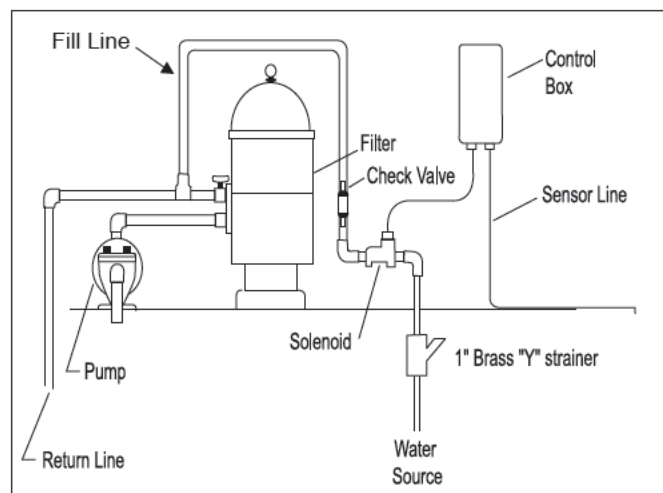
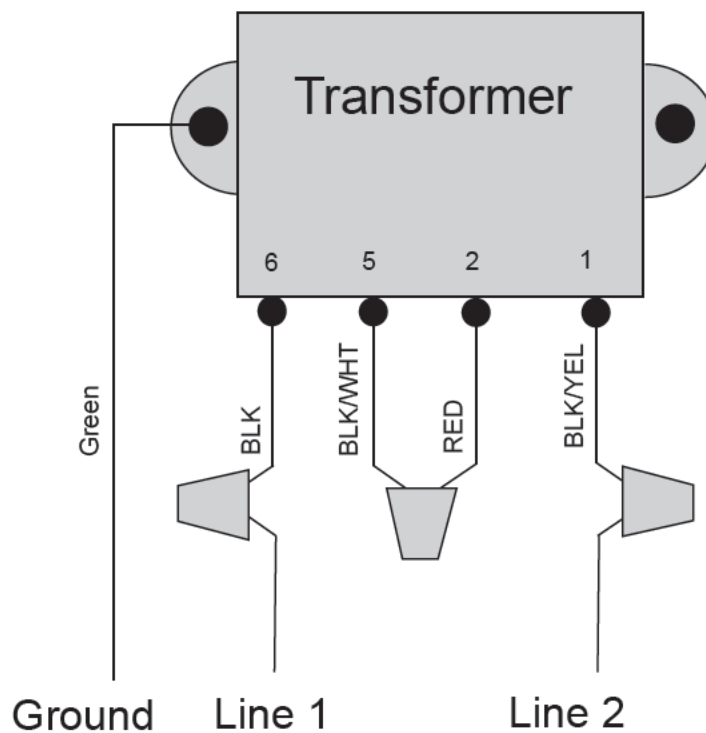
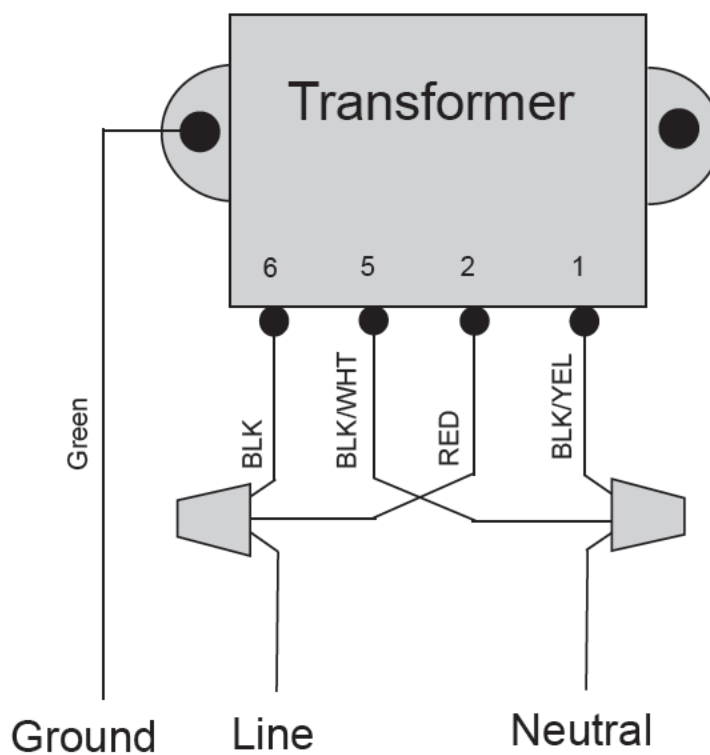

Figure 1. K-1100 or LEV110CK/2G Installation
Figure 4. K-1100, K-2300, and LEV110CK/2G Factory Wiring for 220 Volt Operation
Figure 5. K-1100, K-2300, and LEV110CK/2G Modified Wiring for 110 Volt Operation
Models K-1100, K-2300, and LEV110CK/2G are factory wired for 220 VAC service. If available electrical service is 110 VAC, the power supply wiring must be changed to operate on 110 VAC as shown in figures 4, and 5.
See Figure 4 for factory-direct wiring for 220 volt operation and Figure 5 for modified wiring for 110 volt operation.
1. Mount the control box to the wall near the pump and filter. See Figure 1. ***Do not install the control box within 10 ft (3 m) of the pool edges.***
3. Check the source voltage. (All three (3) units are factory wired for 220 volt operation.) To modify the wiring for 110 volt operation, see *Section 3.3*.
4. For 220 volt operation, connect the black wire to line 1 and connect the black wire with the yellow stripe to line 2. See Figure 4.
Refer to Figures 4 and 5 and do the following:
1. Cut the splice cap connecting the black/white and the red wires. See Figure 4.
2. Connect the red wire with the black wire and connect to the line side of power. See Figure 5.
3. Connect the black/white wire with the black/yellow wire and connect to the neutral side of power. See Figure 5.